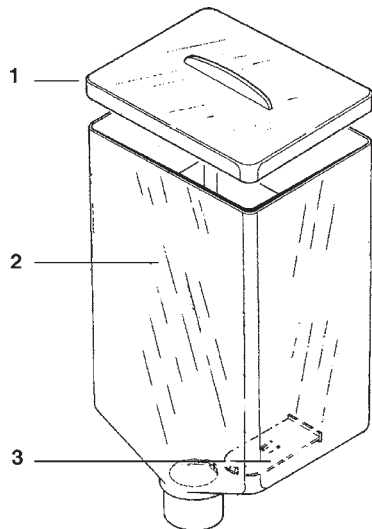

Fig. 7
- remove the powder and the water funnels, the feeders, the powder deposit drawers and the mixer wheels from the mixers (see Fig. 7);